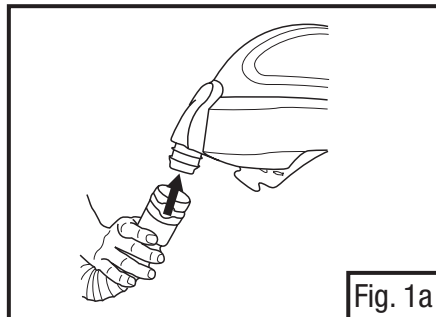

Fig. 1a
- Connect approved breathing tubes by pushing the QRS (Quick Release Swivel) end of the breathing tube (i.e. end with the blue pinch clip) onto the air inlet of the headgear (Fig. 1a). The breathing tube should make an audible click when attached. Verify breathing tube is secured to the headgear by pulling on the connection. If it is not securely connected, detach and reconnect.